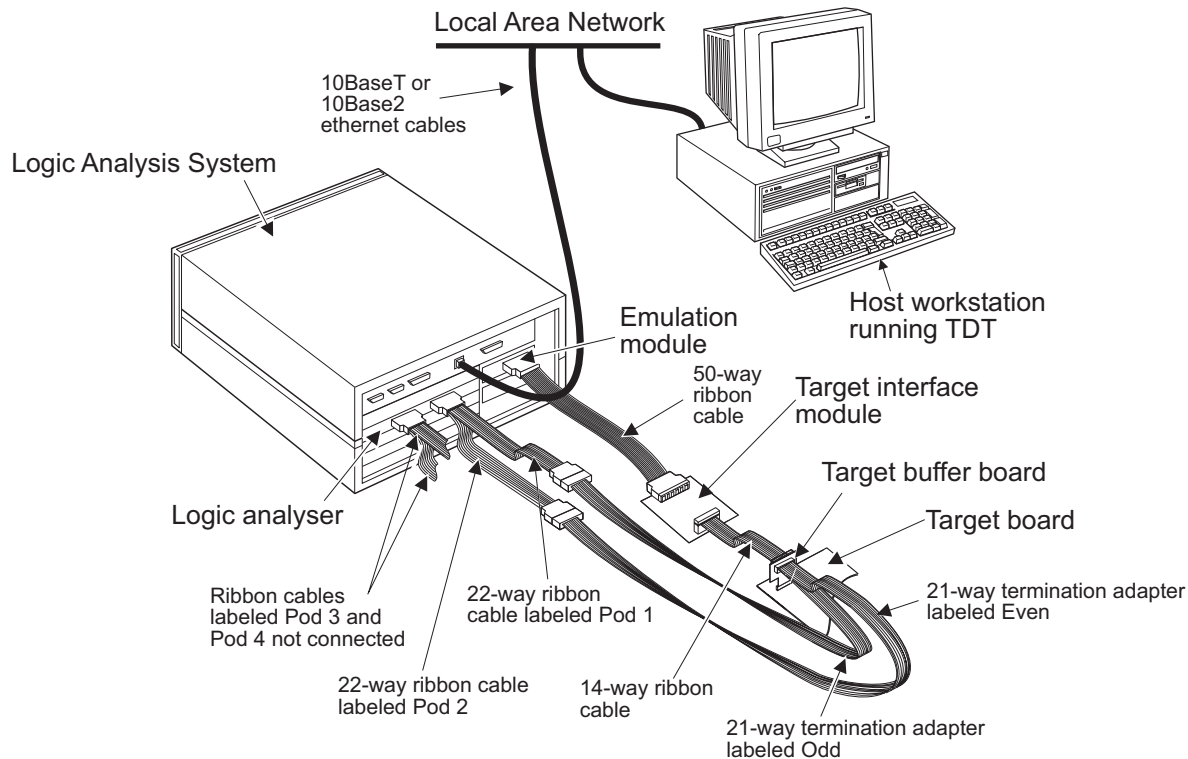

Figure A-3 Connection diagram for Agilent 16600 or 16700 and the Target Interface Module
To set up your hardware and use TDT, as shown in Figure A-3 on page A-6:
2. Connect up all hardware as shown in Figure A-3 on page A-6. Power-up all hardware except the ARM target board.